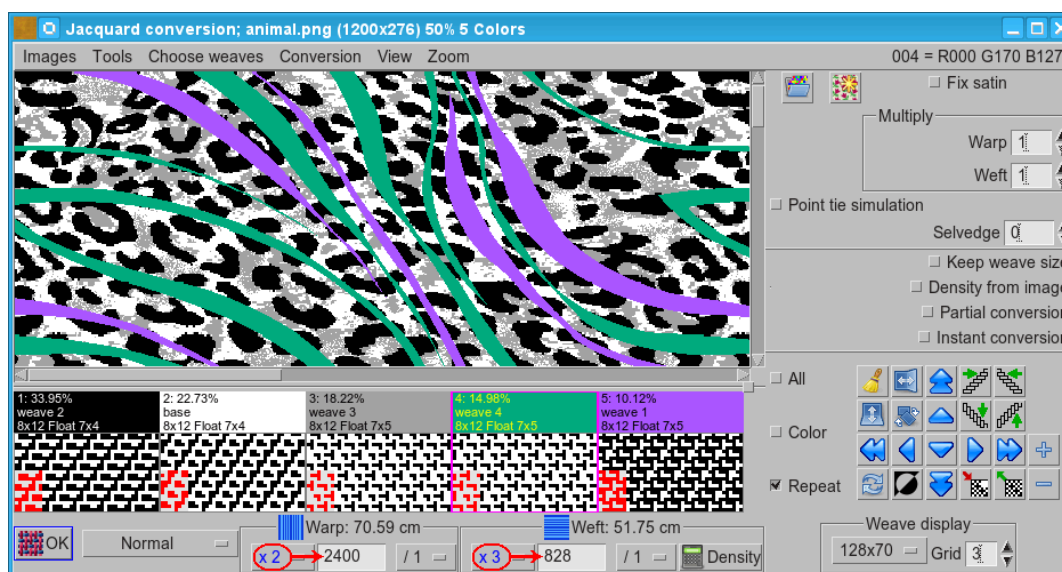
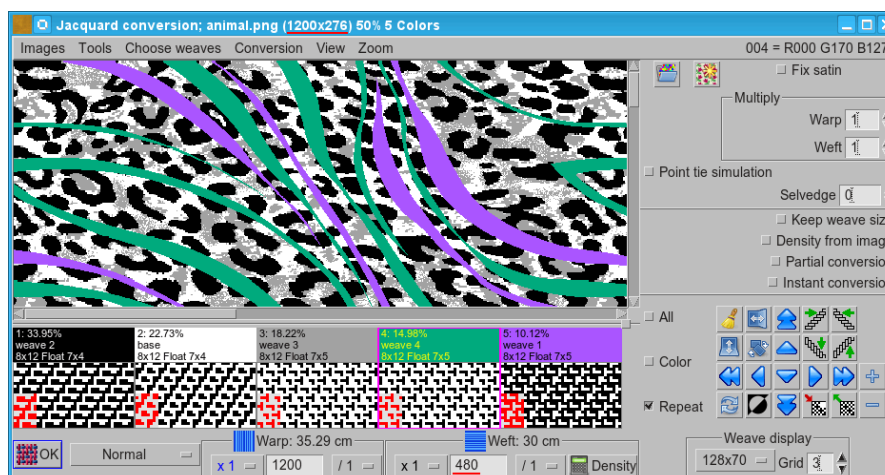

Figure 249: Jacquard weave size changed by multiplying
Figure 250: Jacquard weave size changed manually
- Choose the multiplication factor of the original image size from the drop down menu . You have a possibility to select any multiplication from 1 to 16. In Figure 249, multiplying by two (x2) is used for warp, and multiplying by three (x3) is used for weft. Blue color of the multiplier factor indicates that it was used to determine the weave size. If we change the number manually (Figure 250), then its color turns to black.